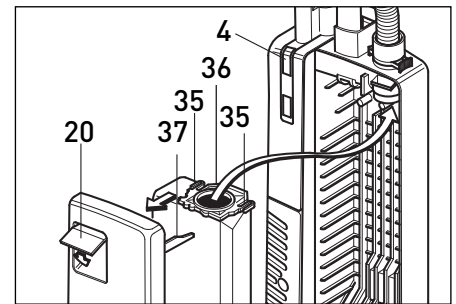

Figure 9
## Changing the Dust Bag - Figure 9
2. Bag not inserted properly.	2. Reinsert bag with cover release flap (20) up, until firmly latched in bag holder (see pg. 10, figure 9).